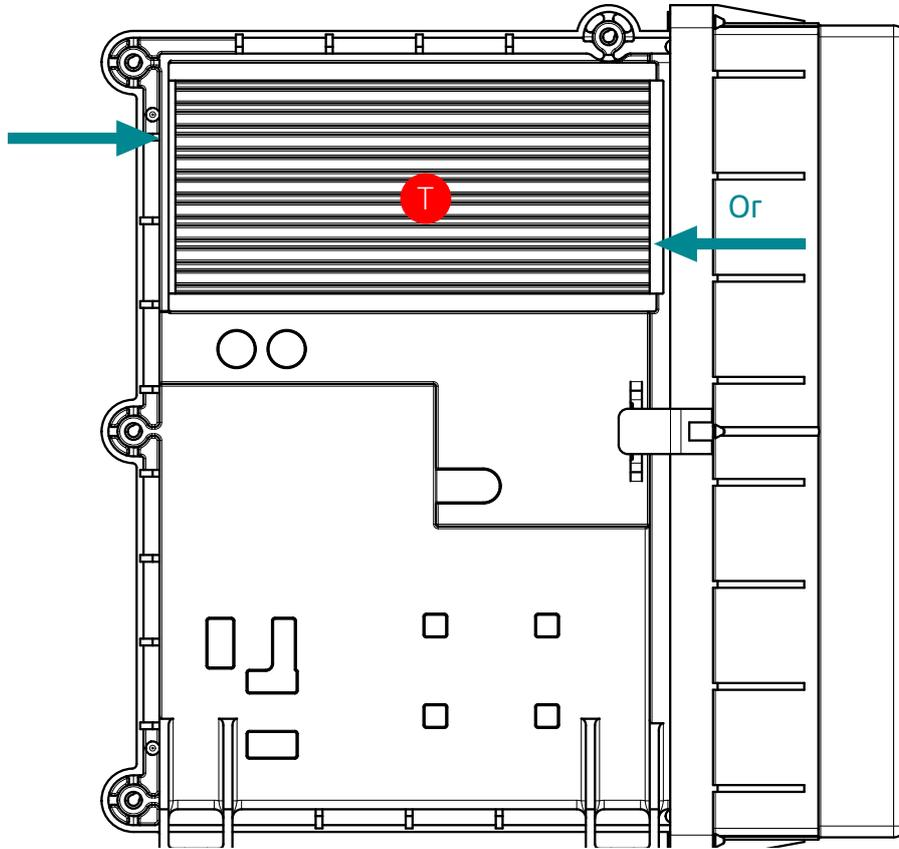

Figure 3.15: Inverter air flow direction
The acceptable air flow directions in the Inverter heat sink are shown in Figure 3.15.
- During the refrigeration system's development that will apply the CF05D inverter, it is recommended to measure the temperature T indicated with a red dot in Figure 3.15. The temperature at this point should never be higher than 75 ° C, even when the inverter is working with high power and it is subjected to high ambient temperatures.